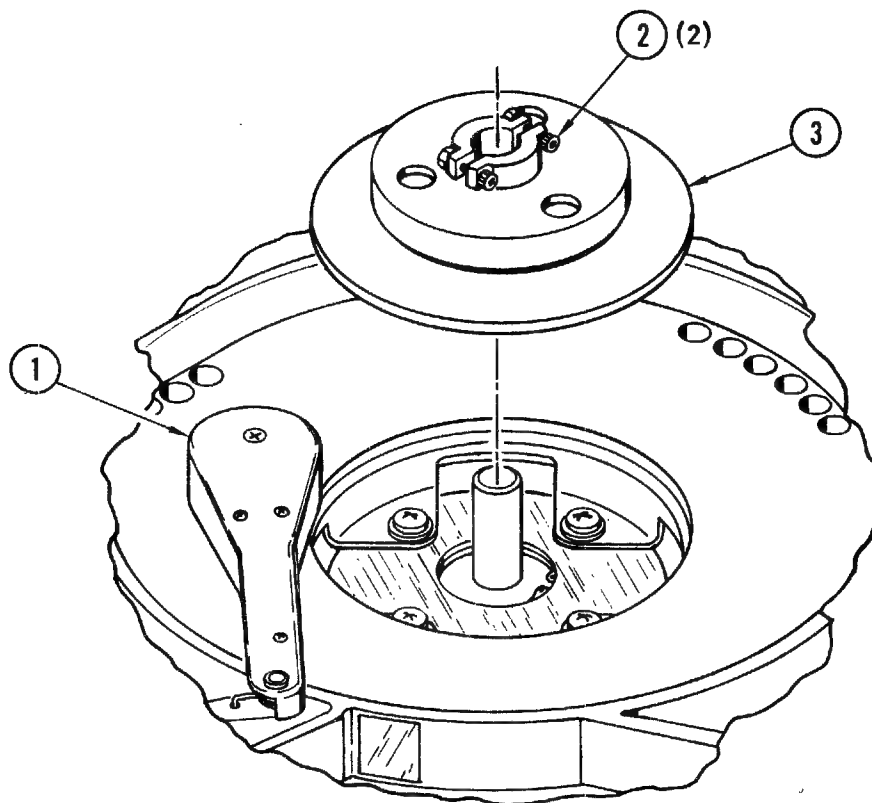

Figure 4-15. Takeup Hub
4-29. **Removal, Replacement, and Adjustment (Figure 4-15).** Place the transport in operator maintenance access position in accordance with paragraph 4-2, and proceed as follows:
- a. Secure tachometer assembly (1) away from the takeup hub.
- b. Loosen socket-head screws (2, Figure 4-15) and remove hub (3).